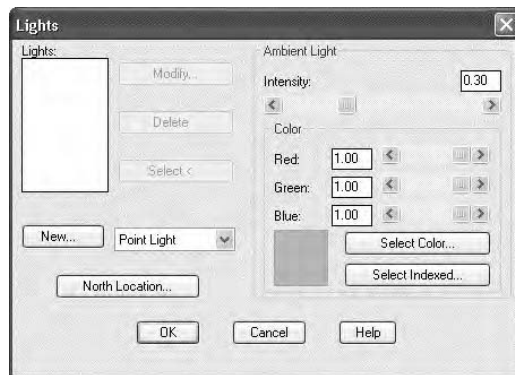

FIGURE A.29: The Lights dialog box
1. Display the Render toolbar and let it float in the drawing area. On this new toolbar, click the Lights button to open the Lights dialog box (see Figure A.29).
6. Click OK twice more to get back to the Lights dialog box (see Figure A.29, shown earlier). In the Ambient Light area, change the intensity from .30 to .50. You can change the Intensity setting by using the scroll bar or by typing it. Then click OK to return to your drawing.